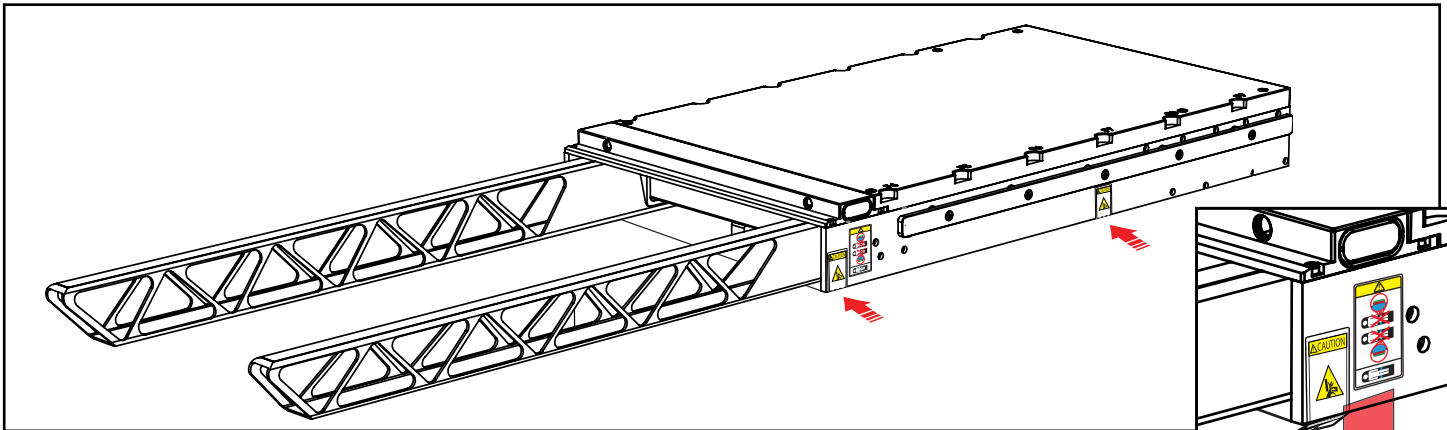

Fig. 24
4. Apply two pinch point CAUTION labels where shown in Fig. 24. Repeat this step on the alternate side, applying the remaining two labels.